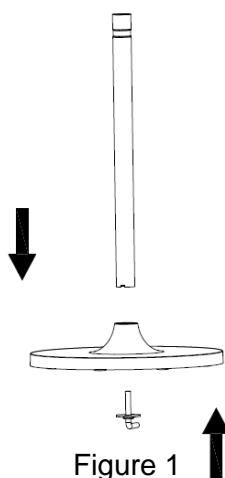

Figure 1
- A. Put the column tube through the hole of base and fix them tightly by pipe screw (Figure 1).